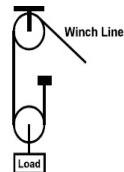

Figure 1b, 2 Part Single Reeved System
-2 persons weighing a maximum 620lbs (280kg) 310 lbs when used in a 2 Part Single Reeved System (see Figure 1b).